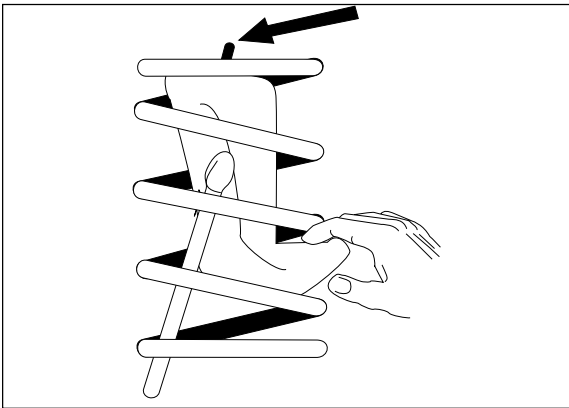

Figure 1
1. Insert flattened air cylinder into coil spring through lowest opening with stem at the top (Figure 1).